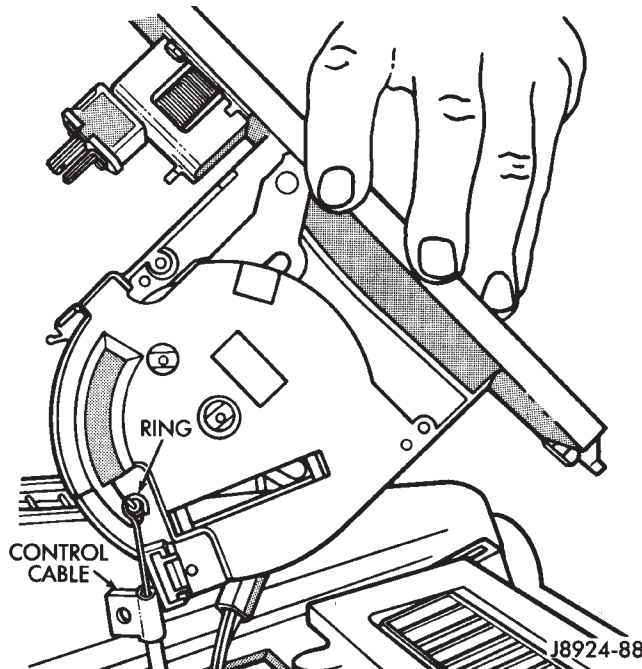

Fig. 8 Control Cable and Ring
- (9) Remove the ring on the end of the control cable from the arm on the bottom of the control panel (Fig. 8).